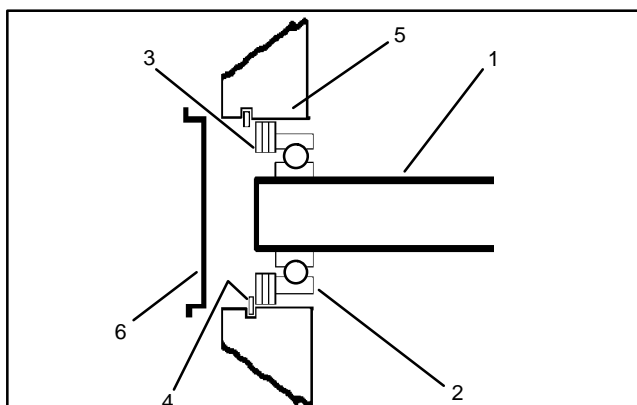

Figure 113
24. Install snap ring into the groove of the bearing housing (Fig. 113 and 114).